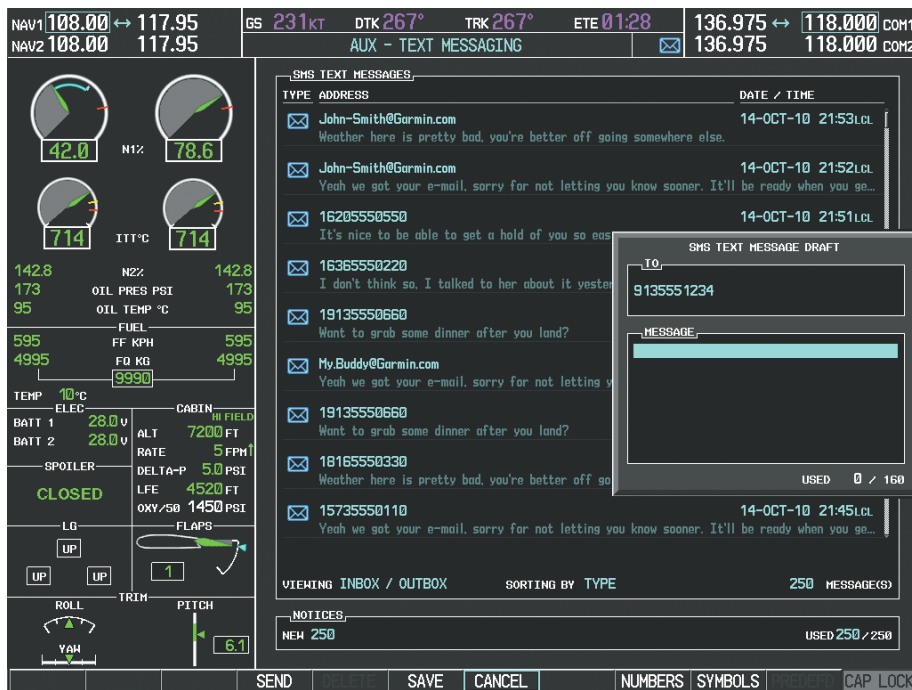

Figure 8-100 Composing a New Text Message
- 2) The TEXT MESSAGE DRAFT Window is now displayed with the cursor in the 'TO' field. Enter the desired telephone number or email address. Entry can be accomplished through the alphanumeric keys on the MFD Controller, or combination of the **FMS** Knob on the controller and softkeys on the MFD. The **FMS** Knob is used to enter letters and numbers, or numbers can be entered from the MFD by selecting the **NUMBERS** Softkey. Select the **CAP LOCK** Softkey to create upper and lower case alpha characters. Special characters can be accessed by selecting the **SYMBOLS** Softkey. See Figure 8-100.